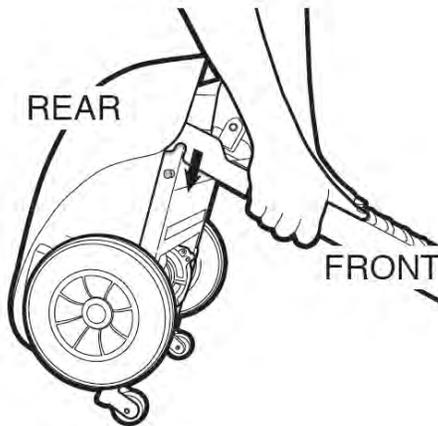

Fig 5.1
2. Set the rear section in the up position and make sure the hook for the front section is connected to the axle of the rear section. (See Fig 5.1)